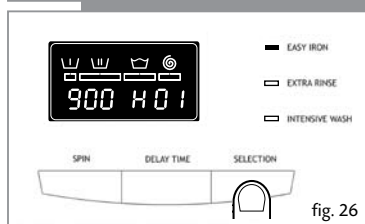

fig. 26
- By pressing the button several times you can choose between several combinations of one, two and up to three additional functions at the same time depending on the programme selected (Figure 26).